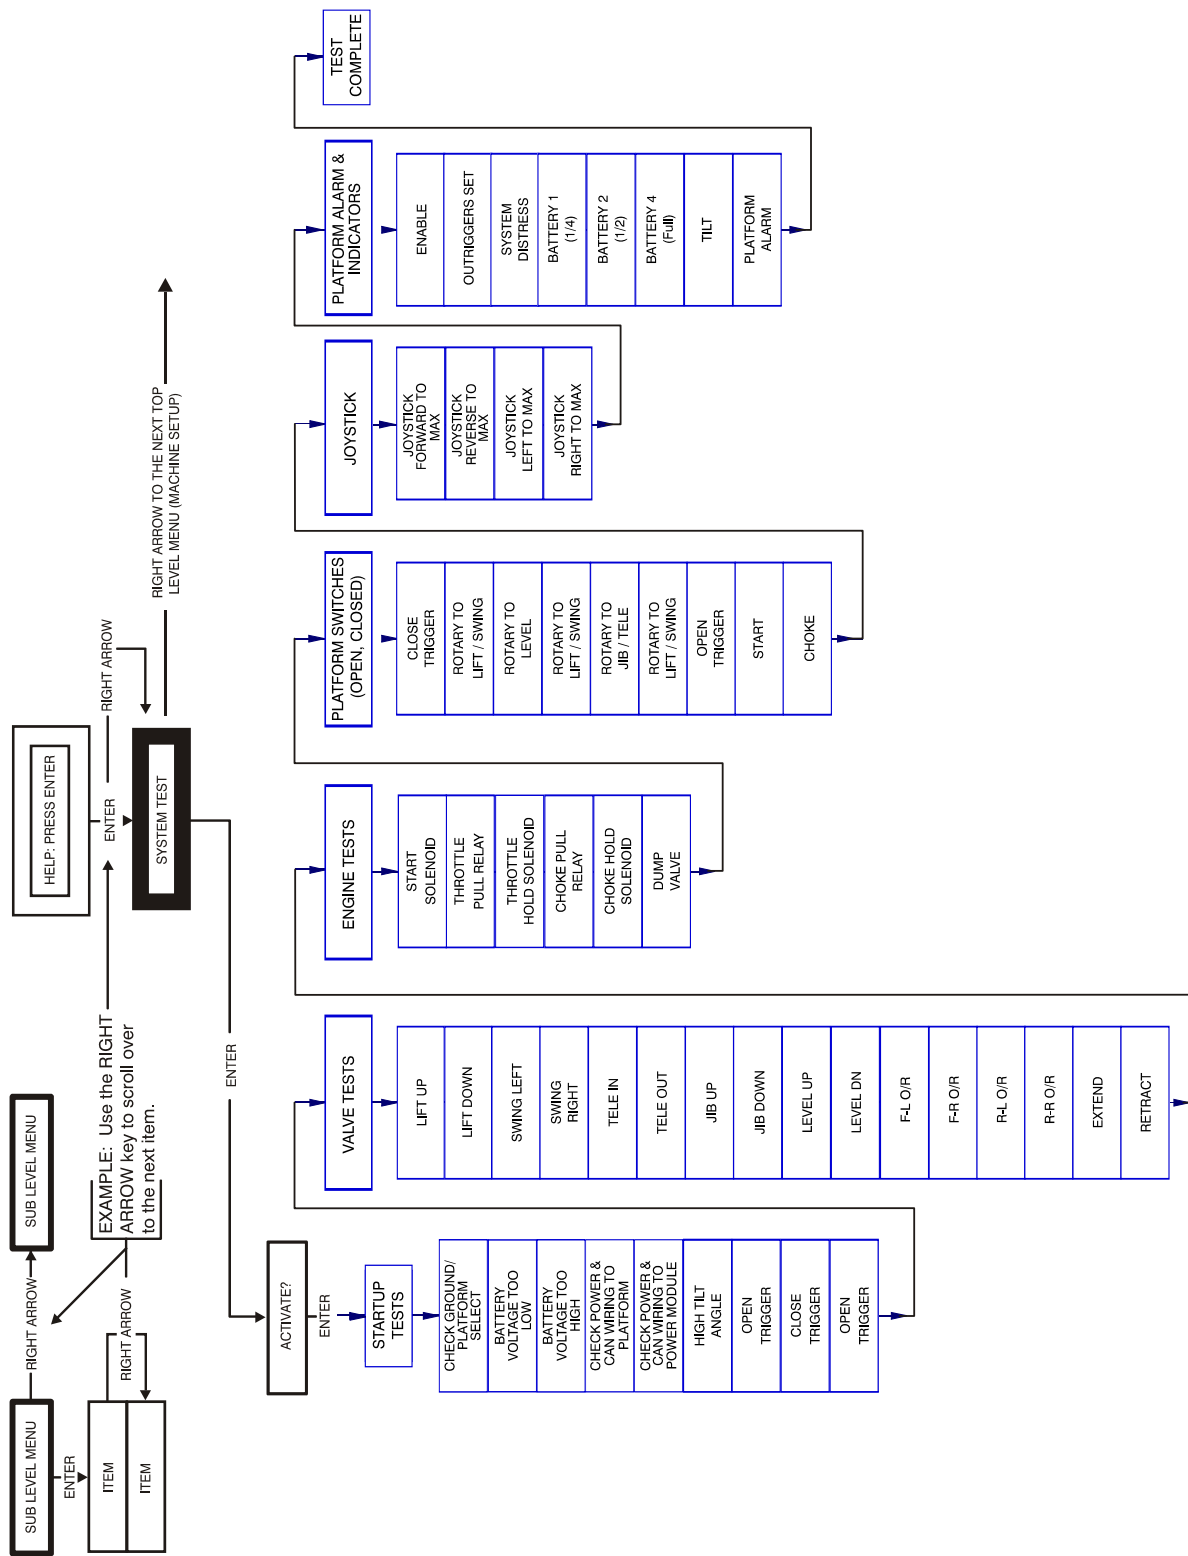

Figure 6-5. System Test Flow Chart - Platform Tests
6. Follow the flow path in Figure 6-5., System Test Flow Chart - Platform Tests and go through the component tests. Hit the ESC key during any part of the test to return to the main menu without completing all tests or wait until all tests are complete. During the TEST ALL INPUTS sequence, the analyzer allows control switches to be operated and shows if they are closed (CL) or open (OP).